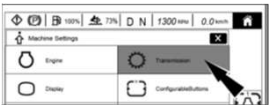

Fig. 7
7. Now go back to the "Machine Settings" menu and select "Transmission" (fig. 7).